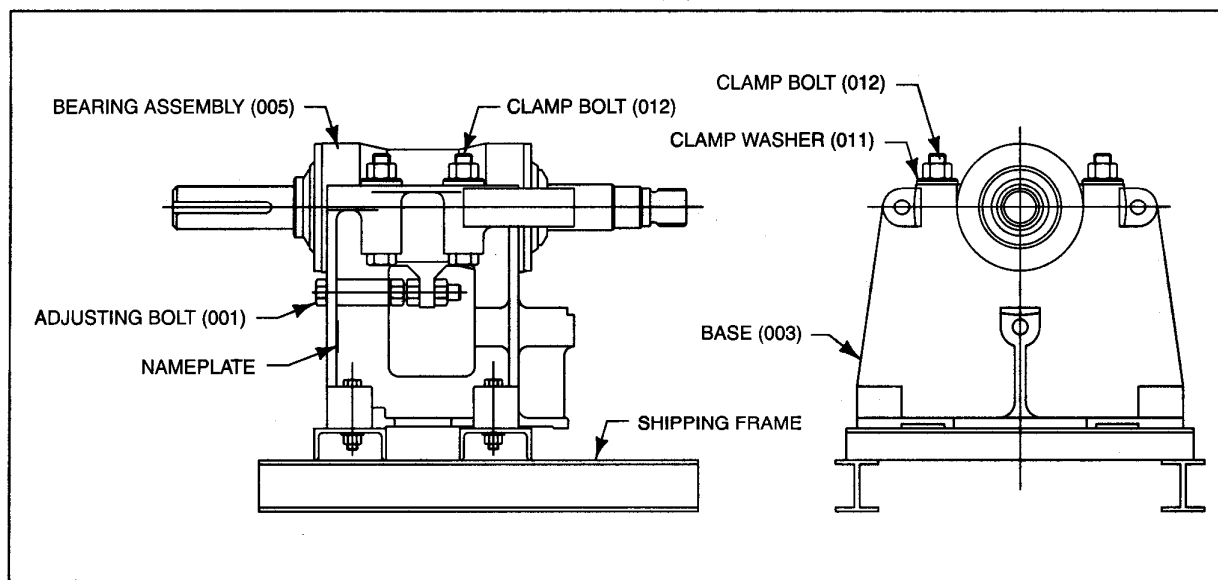

Figure 4-1 • Fitting Bearing Assembly to Base
FITTING BEARING ASSEMBLY TO BASE (Figure 4-1)
6. Fit two pieces of timber to the underside of the base or use the appropriate shipping frame as shown in Figure 4-1 to prevent the pump from tipping forward during assembly of the wet end.